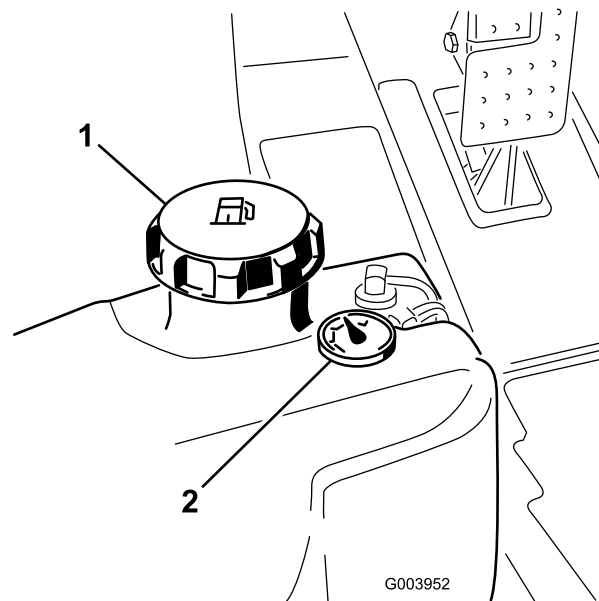

Figure 16
3. Remove cap from the fuel tank (Figure 16).